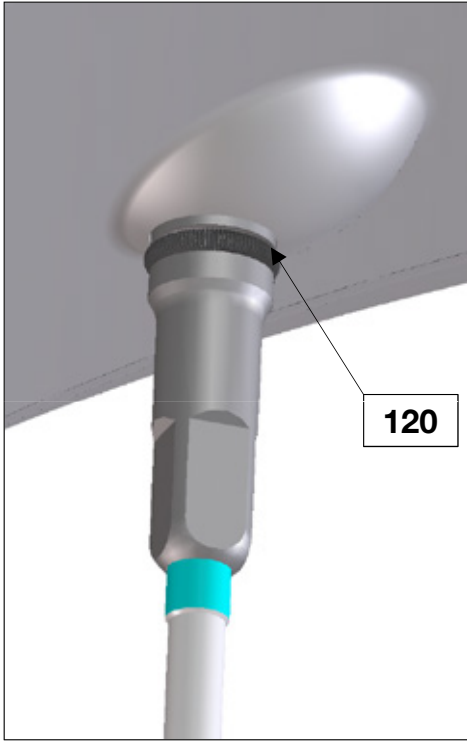

Fig. 20B
Clean thoroughly with a damp brush (with water) the nipple/rim intersection area, and then proceed to removing the locking ring. With a sharp tool (awl, tip for tracing, etc) force and pull out the clip (120) from the nipple (10) and make it then roll out to the centre of the wheel. CAUTION. If you do not handle the tools shown to remove the ring properly and carefully they may cause injury, or damage the rim. Use extra care when carrying out this operation. CAUTION. Once extracted, the “Spiral” clip (120, Fig. 20B, 30B) will be almost certainly damaged, and anyway, under no circumstances, it should be reused. It is essential before proceeding with the operation of removal of the nipple to be sure to buy from Alpina Raggi SpA or from an authorized dealer of spiral clips spare parts.